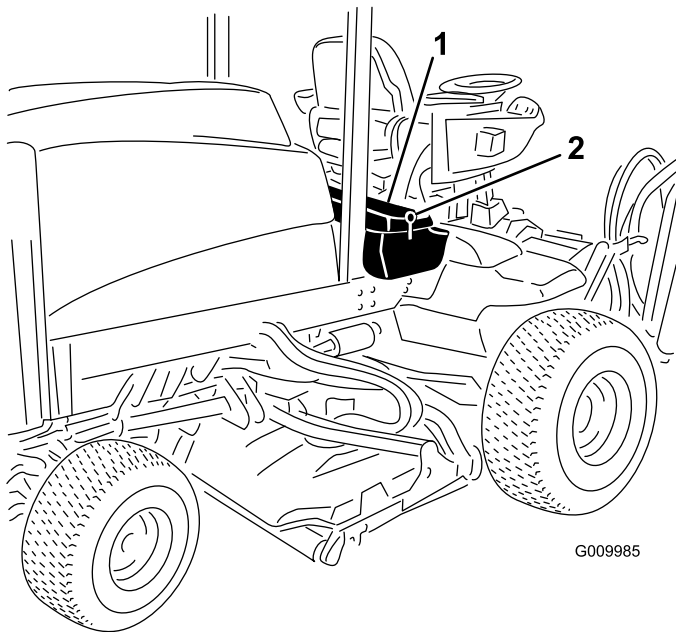

Figure 37
1. Unlatch and raise the operator's console panel (Figure 37).